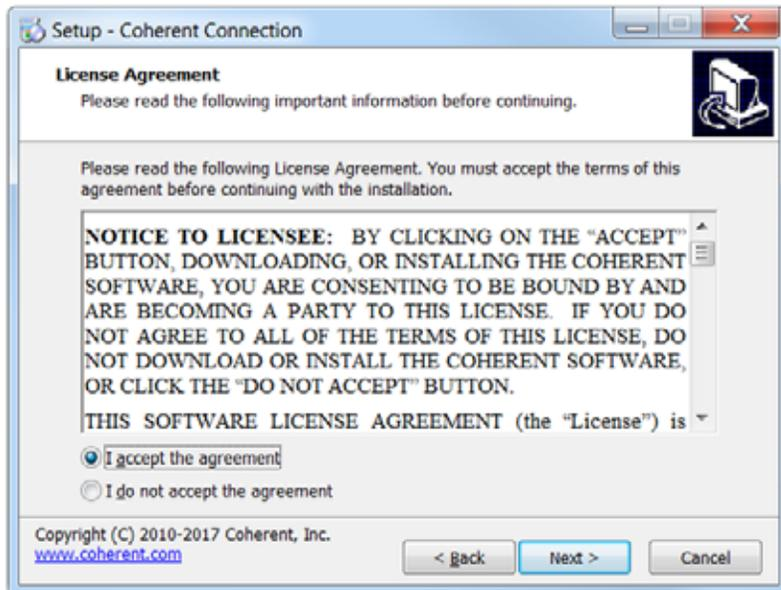

Figure 4-19. Coherent Connection 4 License Agreement
7. Read the instructions, then click Next. The License Agreement shown in Figure 4-19 is displayed.